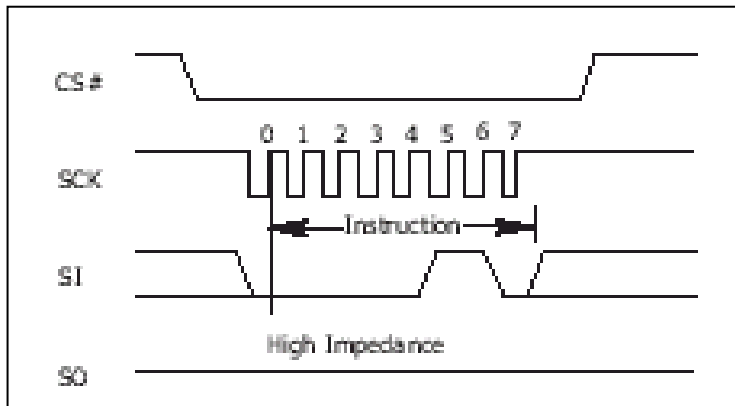

Figure 4 Write Enable (WREN) Instruction Sequence
The Write Enable (WREN) instruction (Figure 4) sets the Write Enable Latch (WEL) bit. The Write Enable Latch (WEL) bit must be set prior to every Page Program (PP), Erase (SE or BE) and Write Status Register (WRSR) instruction. The Write Enable (WREN) instruction is entered by driving Chip Enable (CE_L) Low, sending the instruction code, and then driving Chip Enable (CE_L) High.